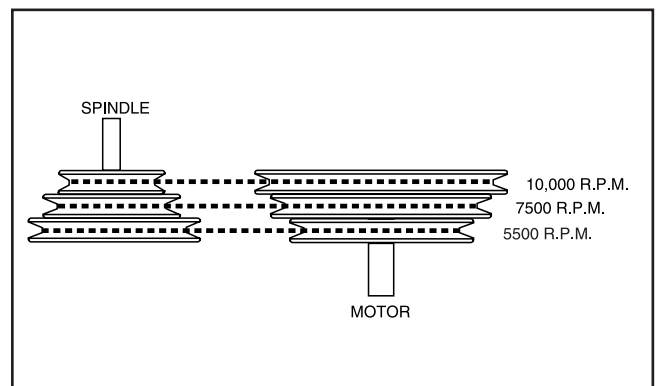

Figure 10. Spindle speed adjustment.
4. Select the desired speed. There are three speeds for the spindle: 5500, 7500 and 10,000 R.P.M. **Figure 10** shows the belt position for each available speed.